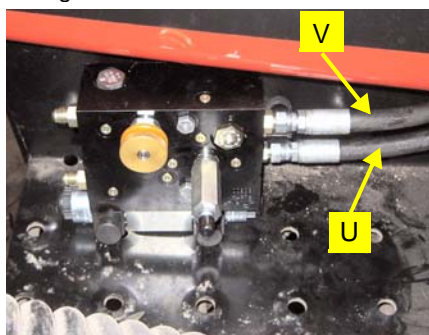

Figure 4a: Installed pressure and tank hoses at block.
- a. Connect the pressure hose (**U**) from the **P** port of the hydraulic control block to the adapter fitting (**R**) installed on the swather hydraulic valve. (Figure 4a and 4b)
- b. Connect the tank hose (**V**) from the **T** port on the Automated Steering Block to run-tee fitting (**Q**) on the swather hydraulic valve. (Figure 4a and 4b)